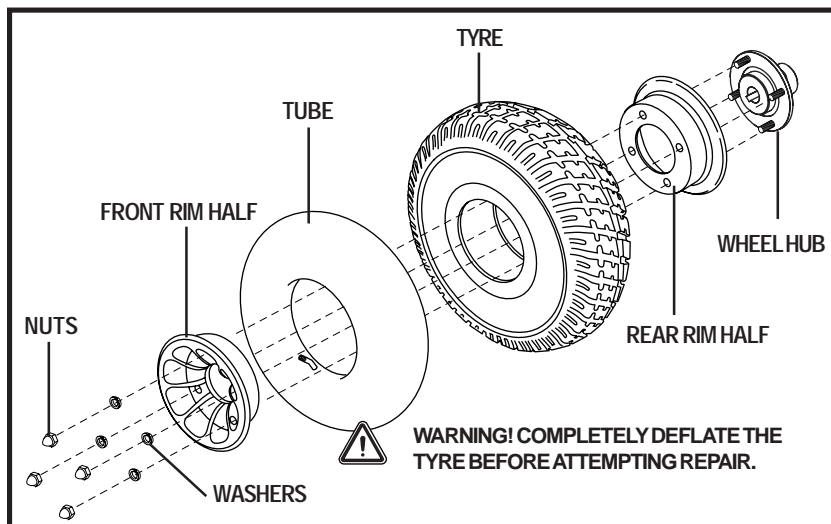

Figure 22. Jazzy 610 Drive Wheel Disassembled
6. Remove the nuts and washers from the wheel hub and separate the front and rear rim. See figure 22.